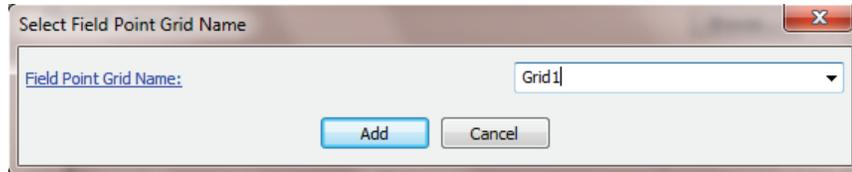

Figure 7.51 Select field point grids window.
**File Type** Choose the desired file type to write the visualization data into. The output file formats that are currently supported are: (1) IGlass file, (2) Abaqus Odb file, and (3) Hyperworks H3D file. Appropriate API dlls have to be installed on your machine before selecting the file types: Abaqus Odb file or Hyperworks H3D file. Follow the instructions in the error message in case Coustyx fails to find these dlls.
**Field Point Grid Selection** Add field points grids defined in the tabbed window: **Field Point Grids** to the current file. In addition to the data for the boundary element mesh, visualization data for the selected field point grids are also computed and added to this file. Click on the button **Add a Field Point Grid...** that opens up the dialog window **Select Field Point Grid Name** (Figure 7.51). Only the names of the field point grids already defined appear in the drop-down menu: **Field Point Grid Name**. Choose the desired field point grid and click OK to add. Use **Delete** button to remove the current selection from the Field Point Grid Selection table.